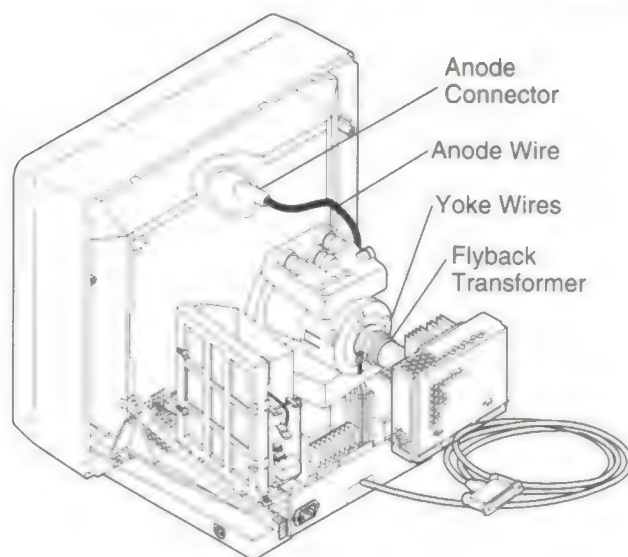

Figure 37. Apple Multiple Scan 20 Adjustments
Indicator Lights (see Figure 37)
1. Press the plus (“+”) button to increase the brightness or contrast (see Figure 37).
2. Press the minus (“-”) button to decrease the brightness or contrast (see Figure 37).
1. Press the select button (marked with “⌘”) to turn on the centering indicator light (see Figure 37).
2. Press the plus (“+”) or minus (“-”) button on the brightness controls to move the center of the picture up or down, or the contrast controls to move the center of the picture right or left (see Figure 37).
2. Press the plus (“+”) or minus (“-”) button on the brightness controls (for vertical size) or contrast controls (for horizontal size) to increase or decrease the size of the picture (see Figure 37).
1. Press the select button (marked with “⌘”) repeatedly until the rotation indicator light goes on (see Figure 37).
1. Press the select button (marked with "⌘") repeatedly until the rotation indicator light goes on (see Figure 37).
1. Press the select button (marked with "⌘") repeatedly until the convergence indicator light goes on (see Figure 37).
1. Press the select button (marked with "⌘") repeatedly until the color temperature indicator light (see Figure 37) goes on.
2. Press the plus ("+") button on the contrast controls to increase the color temperature (see Figure 37).
3. Press the minus ("-") button on the contrast controls to decrease the color temperature (see Figure 37).
You can reset brightness and contrast to their factory levels. However, you cannot reset one or the other. You must reset both controls. Use a straightened paper clip to push in the Reset button (see Figure 37).
1. Press the select button (marked with "⌘") repeatedly until the indicator light of the picture control you want to reset (vertical or horizontal center, convergence, or color temperature) goes on (see Figure 37).